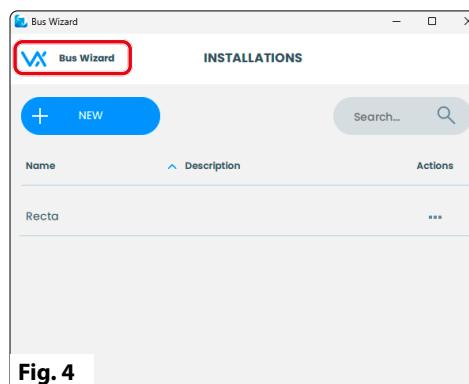

Fig. 4
3. Open the Bus Wizard and click on the "Bus Wizard" label (Fig. 4)